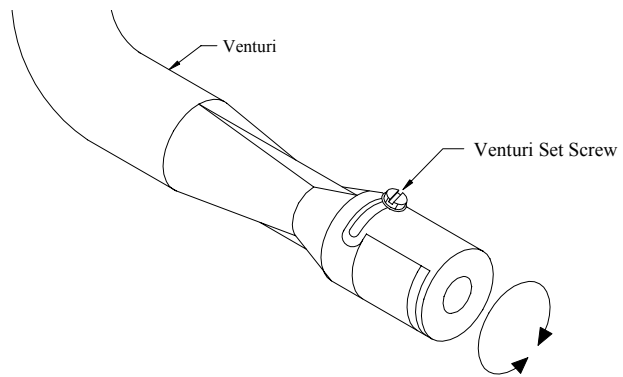

Fig. 24– Primary Air Adjustment
3. A 10" x 10" square hole must be cut in the exterior wall. The centerline of this hole should align with the centerline of the horizontal pipe. Cut and frame the 10" hole to support the venting (see figure 24).
The flame should have a blue base with yellow tips. A dark orange flame with sooting and black smoke indicates a lack of primary air. The primary air shutter is located in the firebox under left hand side of the burner. Adjust the primary mixture by loosening the set screw on the air shutter and increasing the opening for more air and a bluer / cleaner flame, or by closing the air shutter for a more yellow flame. See figures 24 and 25 for proper flame characteristics.